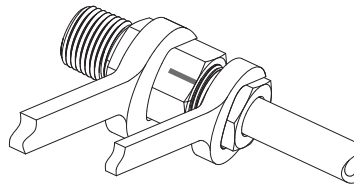

Fig.4
4. Hold the fitting body or the valve steady. For tube O.D. 1/8", tighten the nut 1 1/4 turns with a wrench. For tube O.D. 1/4", 3/8" and 1/2", tighten the nut 1 1/2 turns with a wrench (Fig. 4).